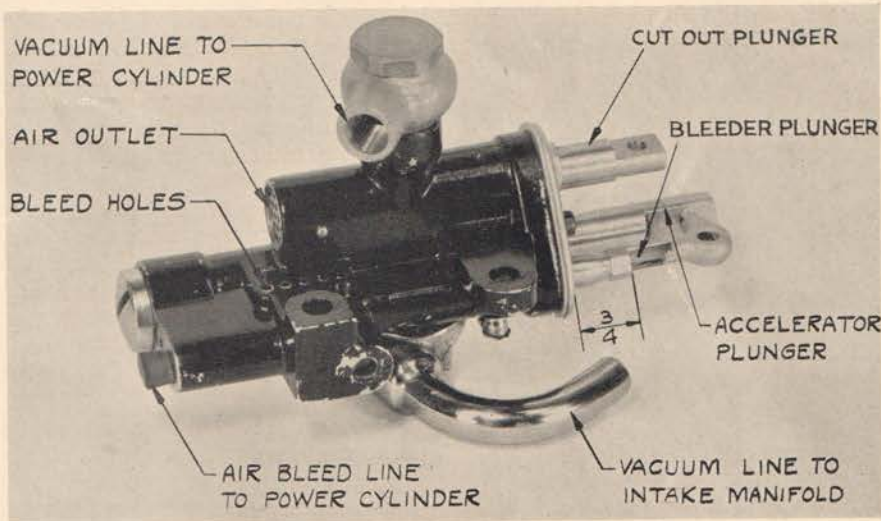

Fig. 3
The control valve, *Figure 3*, consists of three plungers,—(1) the cut-out plunger operated by the control lever on the steering wheel, (2) the bleeder plunger, whose movement uncovers a series of small bleed holes, thus effecting a final smooth clutch engagement, (3) the accelerator plunger whose movement opens and closes the vacuum line from the cylinder to the manifold, thus effecting release or engagement of the clutch.
After the cushion adjustment has been properly set the smoothness with which the clutch engages is then dependent on the correct adjustment of the bleed valve shown in Fig. 3.
Before attempting to make an adjustment of the bleed valve it is wise to make sure that it has not been moved too far from its approximately correct location. This can be determined by measuring the distance from the outer end of the hex on the bleed valve to the plate through which it projects. This distance should measure approximately $\frac{3}{4}$ of an inch, as shown in Fig. 3.